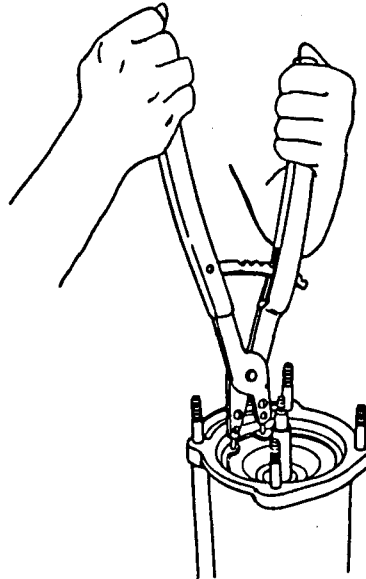

Figure 4. Removing Intermediate Bracket Retaining Ring
With the pump end disassembled and the motor cavity drained, use large snap-ring pliers to remove the retaining ring (8) securing the intermediate (10) in the motor housing (see Figure 4). If necessary, tap around the parting surfaces with a soft faced mallet to break the seal between the intermediate and motor housing. Remove the intermediate and discard the intermediate O-ring (9). Remove the motor bushing (50).